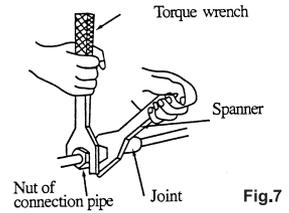

Fig.7
2. Align the joint counter of connecting pipe with the proper indoor and outdoor joint conic surfaces, tighten the connecting nut manually. Then, make it secure with a wrench as shown in Fig.7, applying to above torque Table 1.